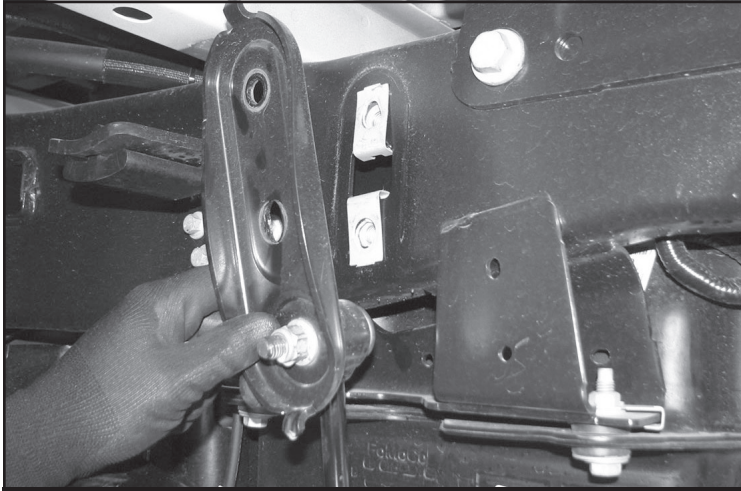

FIGURE 24 - STEP 32
32. Remove the sway bar end link and factory bracket from the frame. Save hardware. Remove end link from the bracket and discard. The bracket will be re-used. **SEE FIGURE 24**